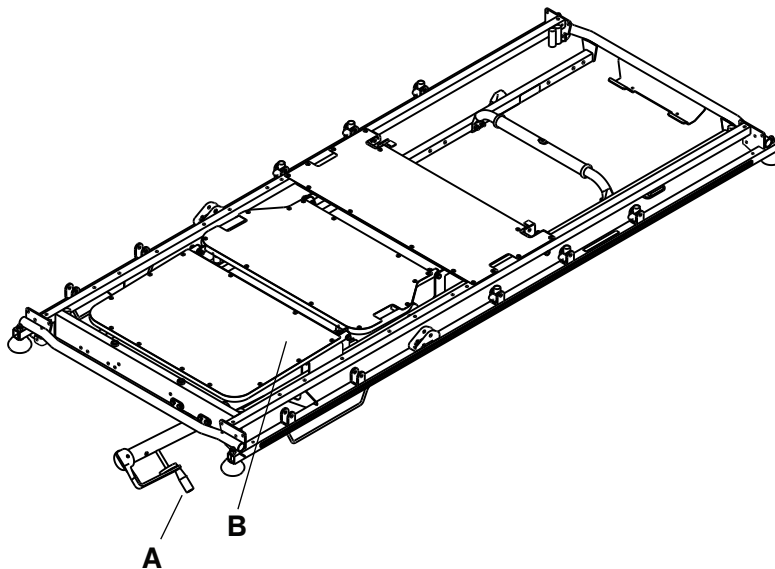

Figure 5: Gatch and crank handle
To raise the gatch (B), turn the crank handle (A) clockwise (Figure 5 on page 16).